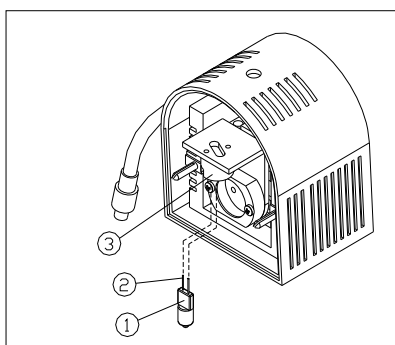

Fig.1
When assembling the halogen bulb for transmitted illumination, hold the bulb ① with clean glove or tissue and insert the pins ② into the receptacles ③. Make sure the bulb is vertical (See Fig. 1).